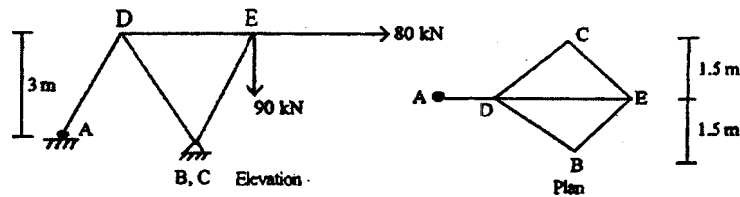

Fig. 1.1
1. (a) Find the deflection at the free end of the cantilever beam with varying load as shown in fig. 1.1 by Strain Energy method.